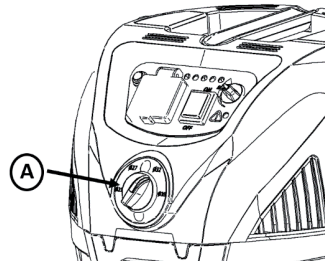

Fig. 15
For M-Class and H-Class it is necessary to adjust the size of the hose to fit the hose attached to the machine. This can be done with the button (A) on Fig. 15.